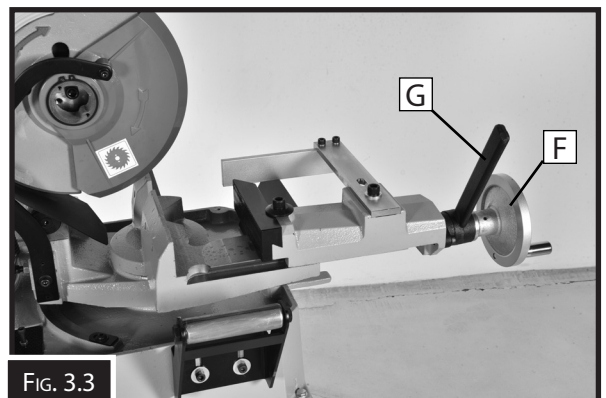

FIG. 3.3
F. Vice Handle: Opens and closes the vise jaws to clamp the workpiece. (Fig. 3.3)
G. Quick Action Handle: Allows for a small amount of opening and closing for quick operation. (Fig. 3.3)